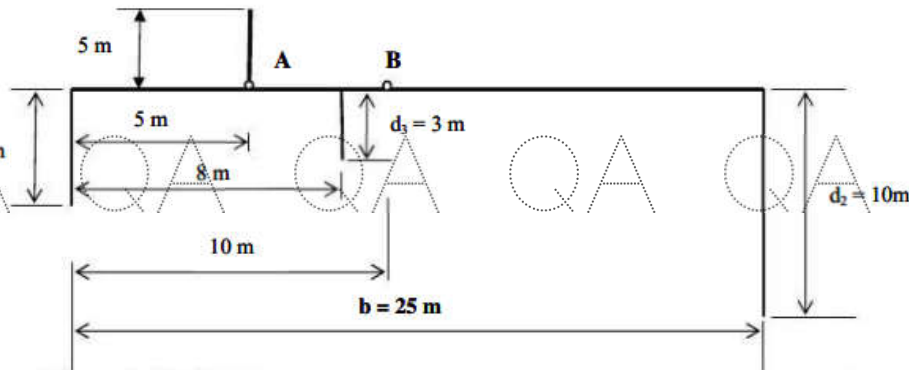

Figure 3
9. A section of a hydraulic structure on permeable foundation is given in the figure 3. Calculate the average hydraulic gradient according to (a) Bligh's creep theory (b) Lane's weighted creep theory also find the uplift pressures at points A and B and the floor thickness required at these points. [5+5]